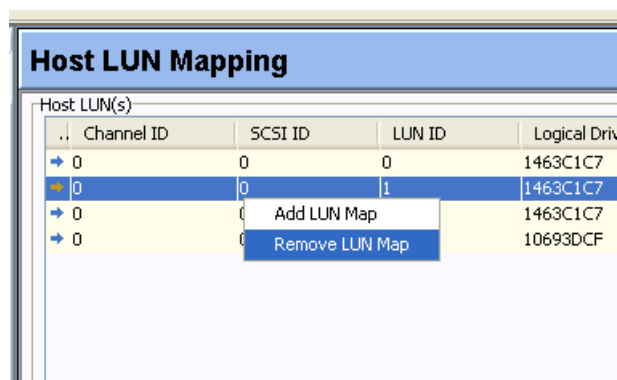

Fig. 10.6 Delete LUN Command
2. Left-click on a configured LUN and then right-click on the adjacent area. A command menu displays as shown in *Figure 10.6*. Select *Remove LUN Map* to complete the process.